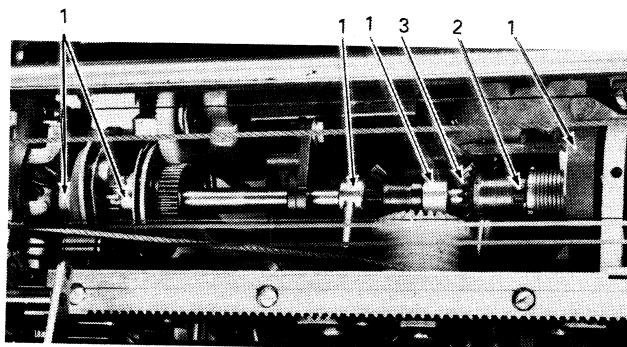

Figure 4-14. Operational Shaft Removal and Replacement (Top, Rear View)
2. Loosen the setscrews in: the torque limiter hub, tab governor hub, tab governor collar, index/filter shaft cam ratchet, and operational shaft collar (No. 1, Figure 4-14).
3. Remove the clip from the carrier return pinion spring (No. 2, Figure 4-14).
4. Move the operational shaft slightly to the right and remove the retainer clip from the right side of the carrier return pinion (No. 3, Figure 4-14).